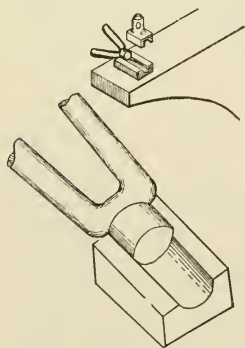

FIG. 198.—SWAGING TOOLS.
swages have a semicircular groove, but some have angular grooves. They come in pairs and in different sizes. A top swage has a handle like a flatter and a top fuller, while the bottom swage has a stem that fits into the square hardy hole. These tools are generally used to give a finish to the work. (See Fig. 198.)
4. **Swaging the head.** — When the hole has been finished, fit into it a pin of $\frac{1}{2}$ " round iron or steel and hammer the head round, using the hammer at first, then the top and bottom swages to finish. (See Fig. 198.) This operation will be rather difficult, but by taking pains one can make a good looking head. The pin must be kept in the hole during the operation to